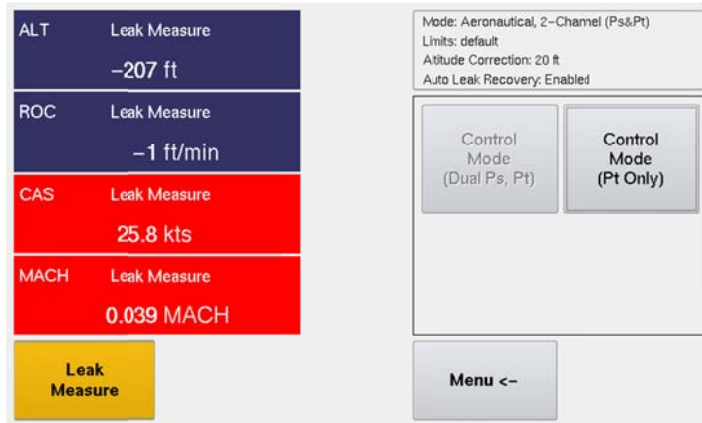

Figure 18 Default 2-Channel (Dual Ps, Pt) mode
- (1) Default: Aeronautical 2-Channel (Ps&Pt) (Figure 18)